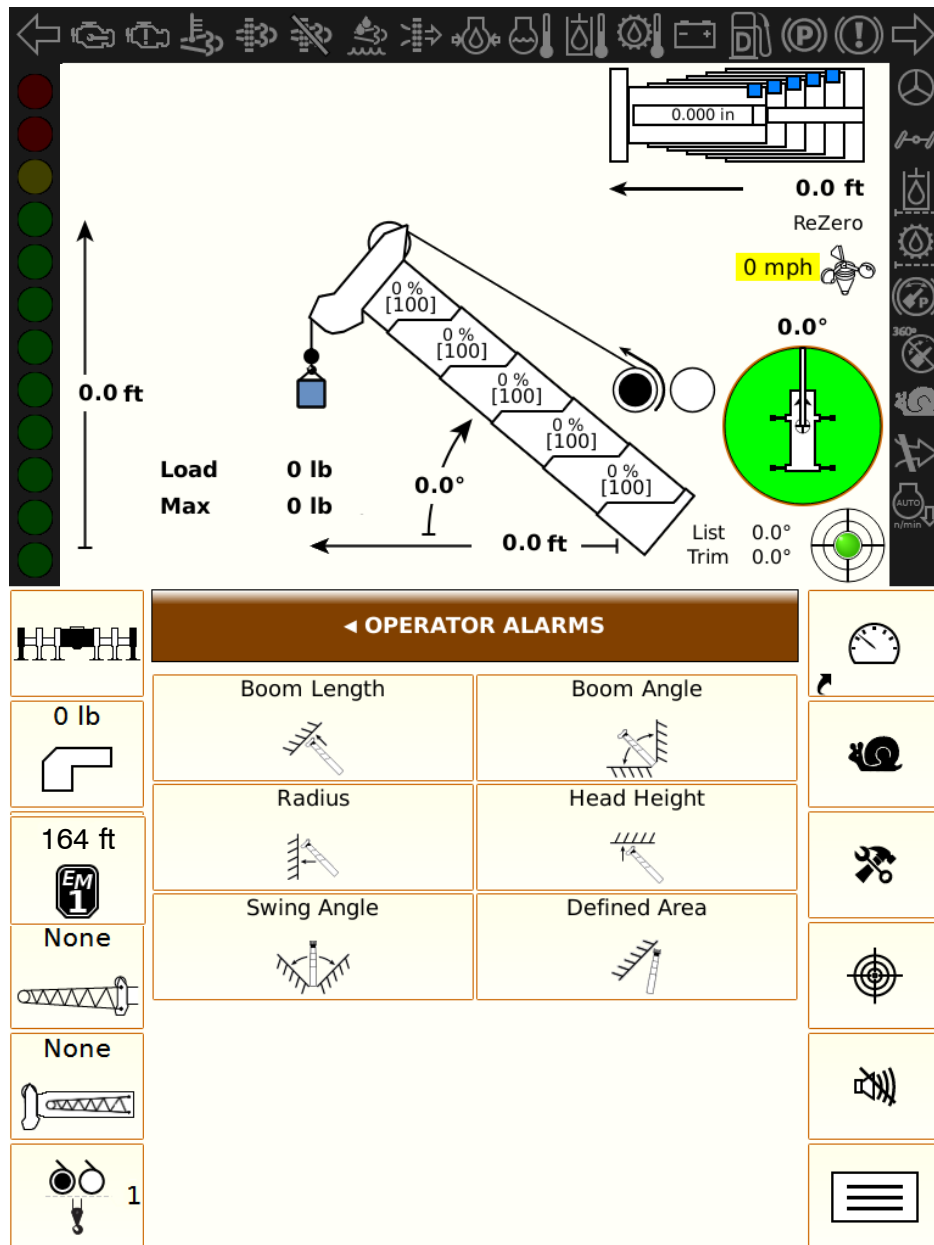

Figure 1-111
2. The Operator Alarms Menu will appear. Press the Boom Length Button . Refer to Figure 1-111.